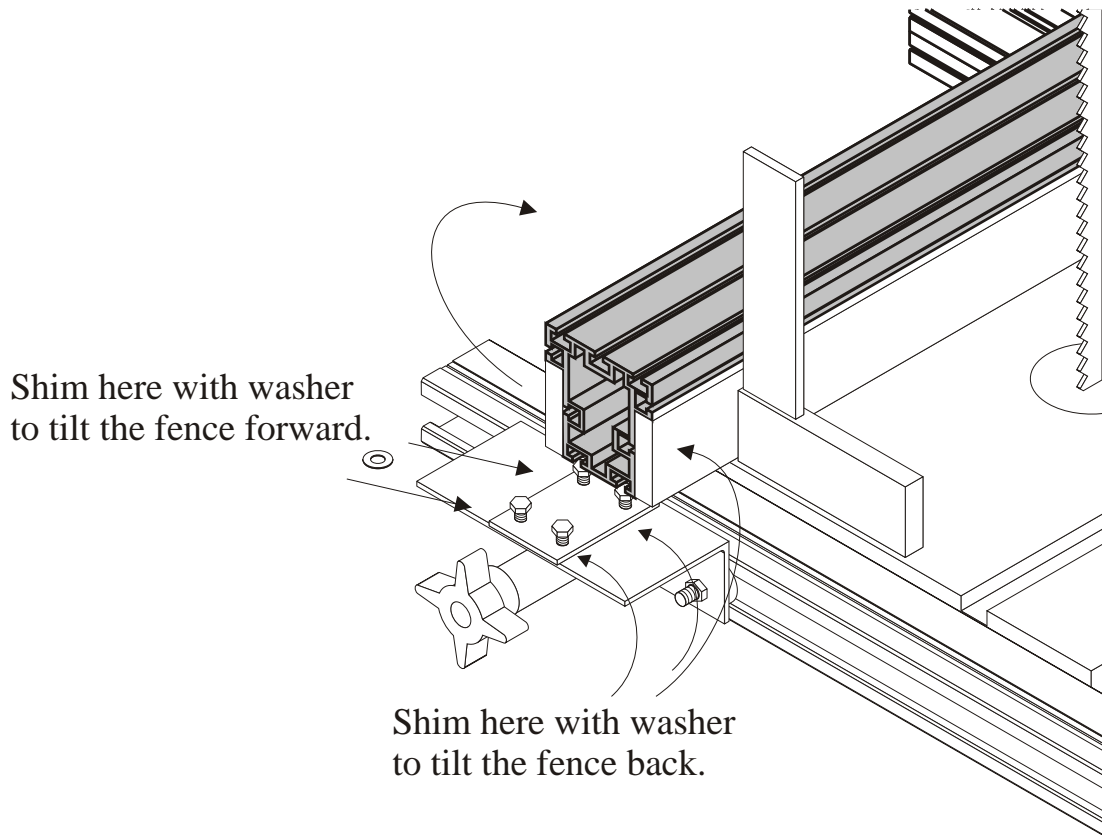

Figure 19
1. Using a square check the fence square as shown in (Figure 19). Shim as needed on the right or left or right hand bolts to bring the Fence square.